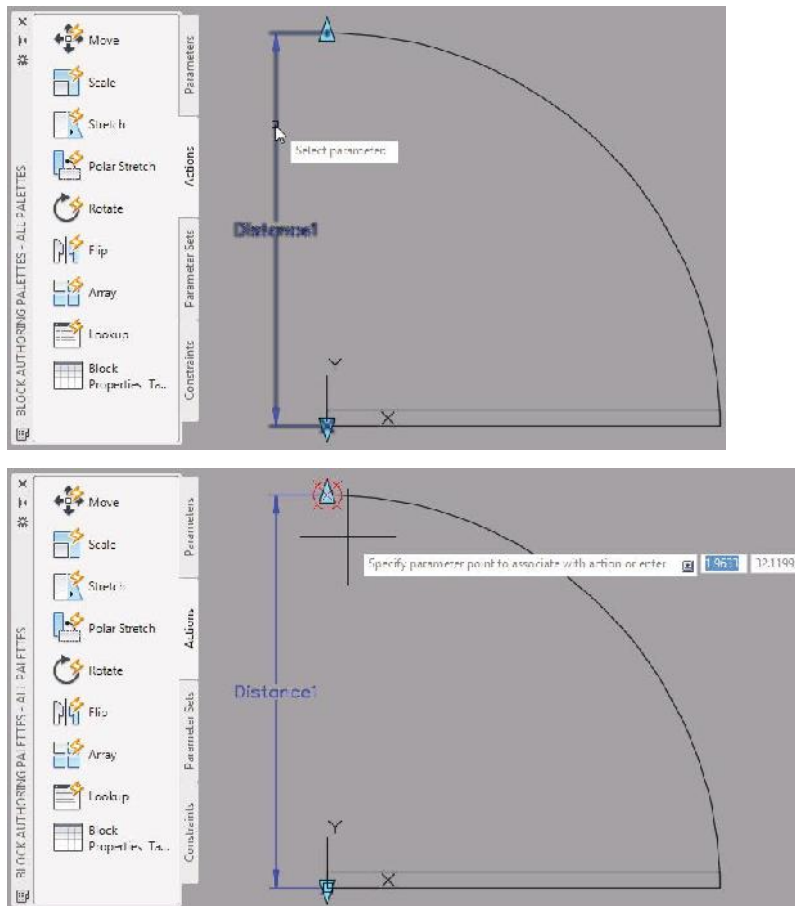

FIGURE 9.44: Selecting the Distance parameter (top) and picking the linear grip (bottom)
2. Select the Distance parameter (Distance1) to the left of the door, and then click the up arrow at the end of the door swing (see Figure 9.44).